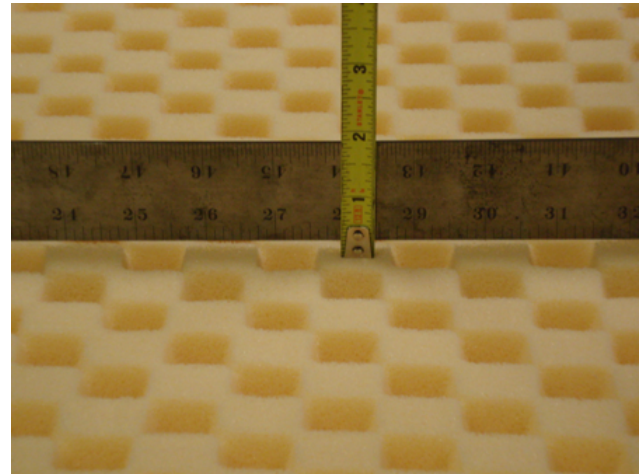

Figure 2 – Measure maximum depth
7. Using a tape measure, measure the maximum depth (lowest point) from the bottom of the straight edge to the top of the foam (Figure 2).